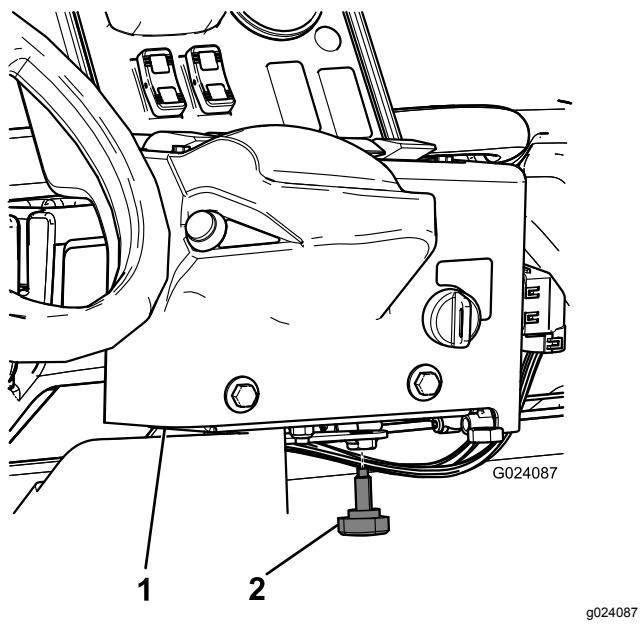

Figure 15
3. Install the hand knob to prevent the console from rotating during operation (Figure 15).